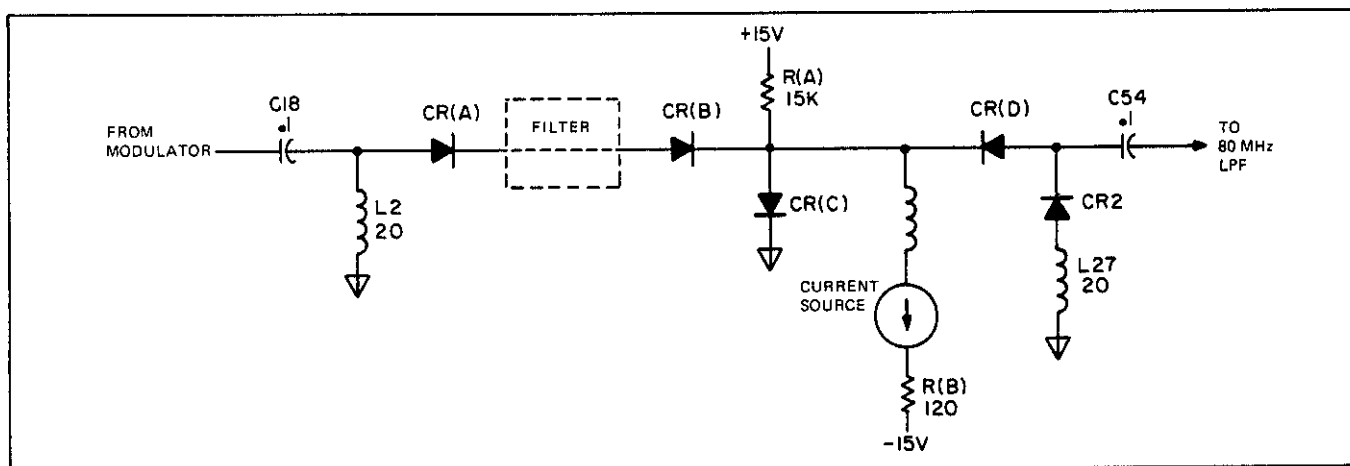

Figure 8-43. LPF Bank Switching.
8-259. The bias of the switching diodes is controlled by a current source. Each switching circuit contains three transistors: a current source, a drive transistor and a switching transistor. All filter bank switching transistors are on but one. This is determined from the logic lines of buffers U2 and U3 (See Figure 8-43). When a switching transistor is off it turns the drive transistor on which activates the current source. The current source has two
8-260. Each switch in the LPF bank operates alike. The following discussion describes how these switches operate. Refer to Figure 8-43, LPF Bank Switching. This figure illustrates the dc paths of the filter and associated components. The filter itself contains three series inductors between the switching diodes CR(A) and CR(B). Inductors L4 and L36 and diodes CR(A) and CR(B) represent a short to dc. When the current source is off, diode CR(C) is forward biased while all others are reversed biased. The bias voltage of CR(C) at the junction of CR(B) and CR(D) reverse biases all other diodes. Since diodes CR(A) and CR(B) are not conducting, the synthesized signal coupled through C22 is not transmitted through the filter.